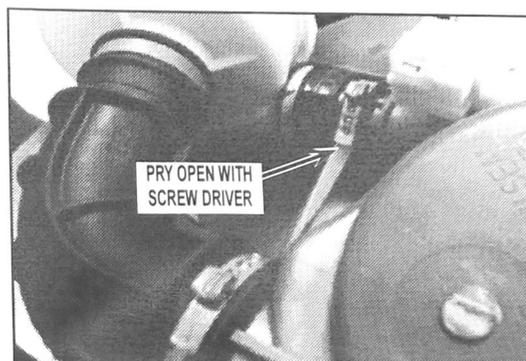

FIGURE 3
- a. Using a flat head screw driver, pry the open end to disengage the locking perforations and loosen the clamp. See Figure 3.